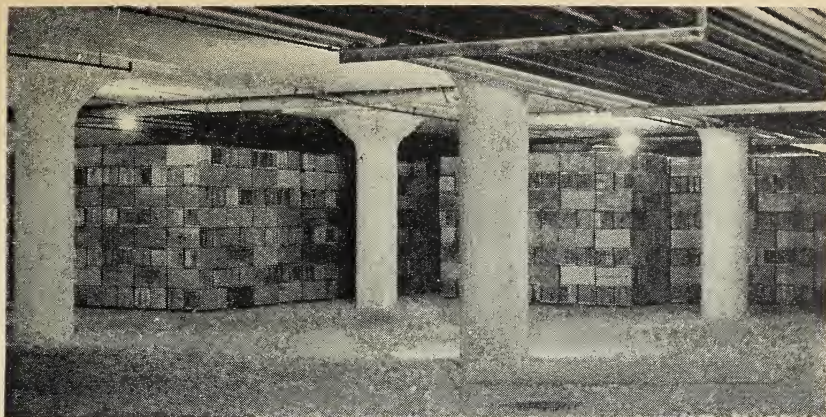

Figure 31.—A well-managed, sanitary, commercial, cold-storage room.
- a. Sanitary condition (fig. 31).